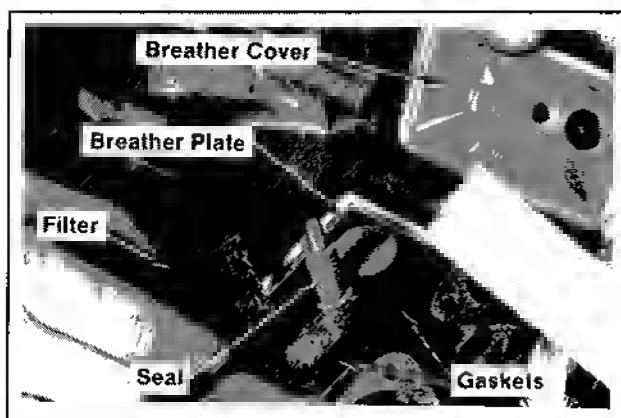

Figure 9-13. Removing Breather Components.
2. Remove the filter, seal, breather plate, and gasket. Refer to Figure 9-13.